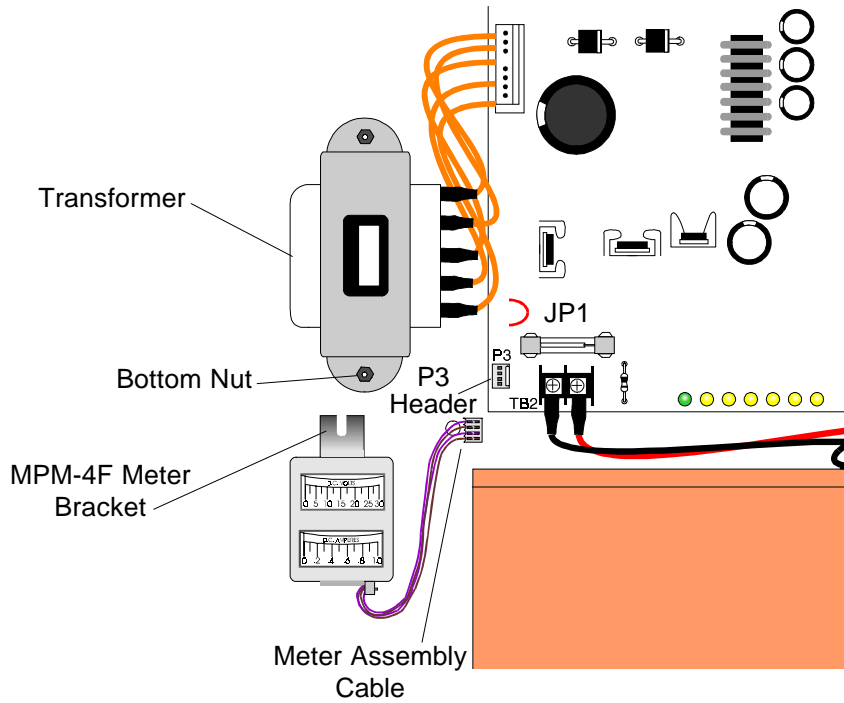

Figure 2-2: MPM-4F Installation Diagram
- 5) Connect the meter assembly cable to P3 header (refer to Figure 2.2).